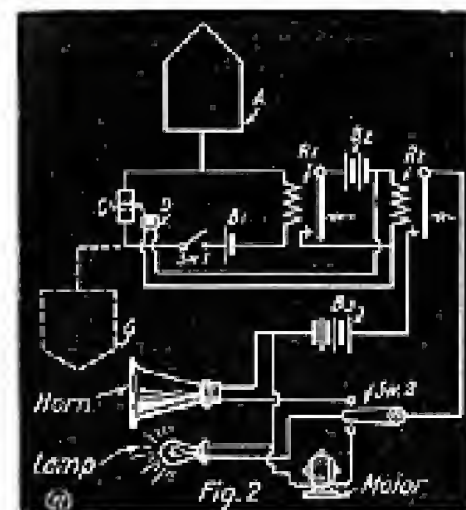

Fig. 2. Diagram of Coherer Set Connections.
The relays for this set are simply those known as "pony" telegraph type, etc., and while for short distances up to 50 to 75 feet it is not necessary to use any ground capacity "G" (corresponding in size to the metal plate "A" previously mentioned), this capacity should be used as shown in dotted line at Fig. 2 for greater distances
Referring to the diagram of connections for this outfit at Fig. 2, the general operation and arrangement of the set will be more clearly understood. A metal plate, which also shows in Fig. 1, and made of
(Below) Fig. 2. Rear View of Same.
The rear view is shown in Fig. 2. The connection of each individual instrument is represented in diagram Fig. 3, where A , C_1 , L_1 constitute the primary or antenna circuit and C_2 , L_2 constitute the secondary circuit. The two circuits are electrically linked together through two small condensers C_3 , C_4 , and any degree of coupling may be obtained by varying these condensers. This method of coupling offers several advantages. They are: (1) Compactness; (2) increased efficiency; (3) higher selectivity; (4) simplicity in operation. In regard to the first point it is quite obvious that by eliminating the receiving transformer, or loose couplet, a considerable economy in space may be accomplished, which makes it possible to build a receiving set of comparatively small dimensions for a large range in wave lengths. The second and third points have been definitely settled by a large number of comparative tests with other receivers of the best known types on the market.